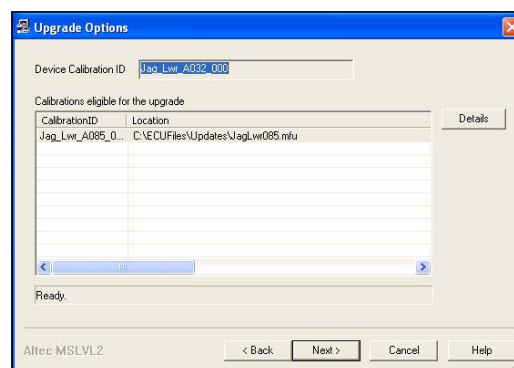

Figure 9 — Upgrade Option Window
4. Altec MotoUpdate will then search for upgrades that are available for the ECM that has been selected (refer to Figure 9). The upgrade will appear below CalibrationID in the window.